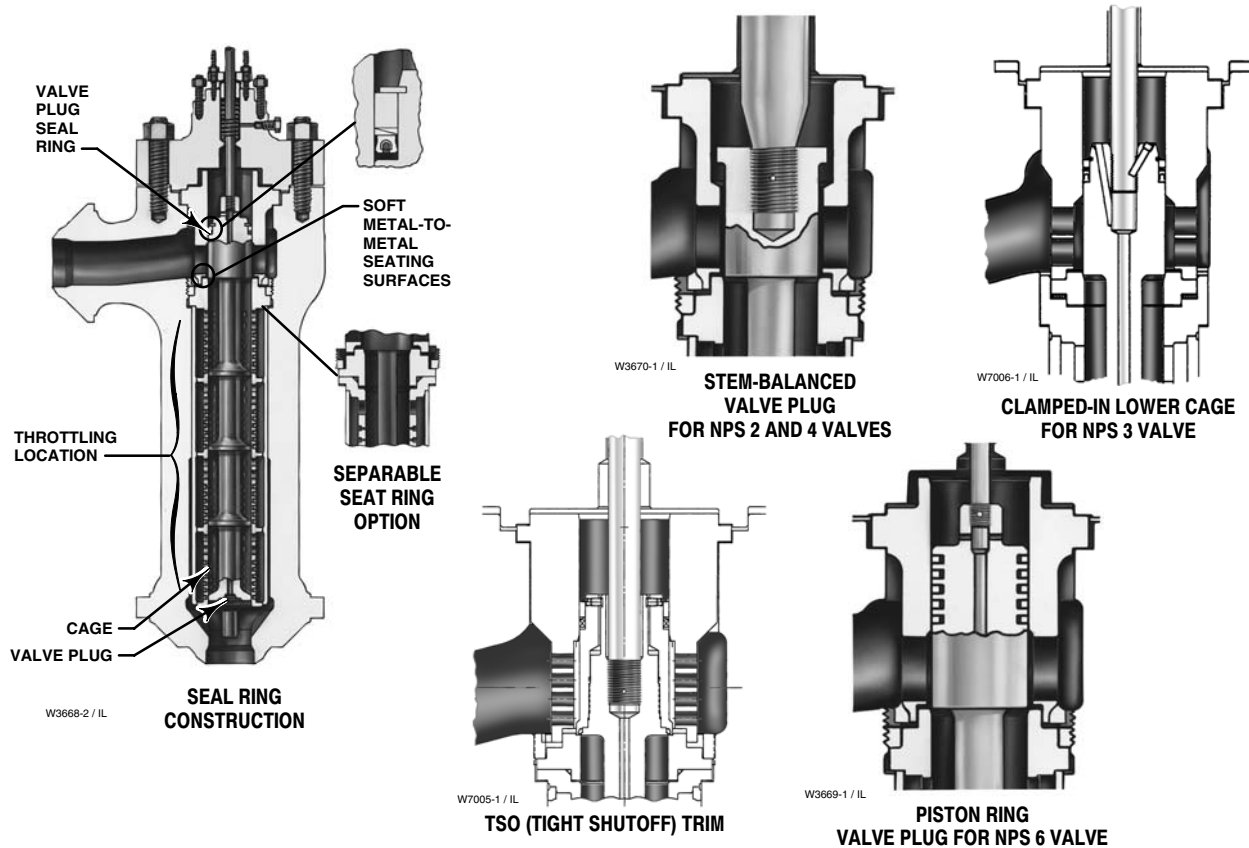

Figure 2. Sectional View of Design CAV4 Valve Body with Cavitrol® IV Trim
The Design CAV4 valve's various valve plug constructions (figure 2) provide temperature capabilities through 417°C (800°F). The seal ring construction is used where temperatures are equal to or lower than 232°C (600°F) (see figure 6), and both the stem-balanced and the piston ring constructions are used with temperatures up to 417°C (800°F). In addition, the Design CAV4 valve is offered with either a separable seat ring for low-temperature (up to 232°C [450°F]) applications or with an integral seat cage for high-temperature (up to 417°C [800°F]) applications. The NPS 3 is available only with a clamped-in lower cage and replaceable seat ring.
- **TSO (Tight Shutoff) Trim**—Valves with TSO trim (figure 2) are factory tested to a more stringent Emerson Process Management™ test requirement of no leakage at time of shipment using ANSI/FCI Class V procedures.